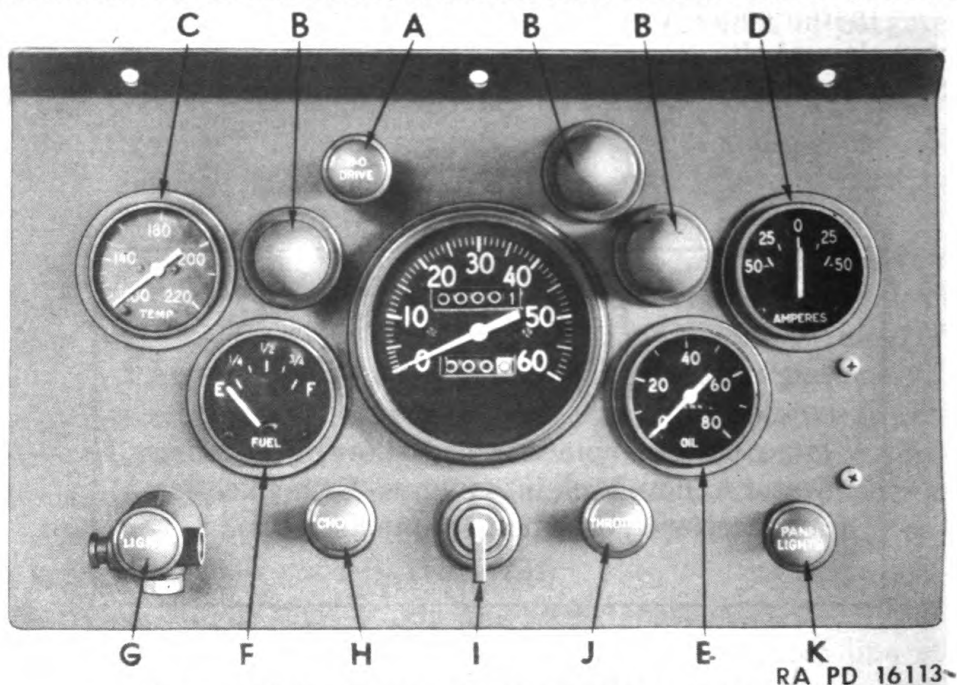

Figure 158—Front View of Instrument Panel
a. Instruments and gauges, as illustrated in Fig. 158, are installed in a cluster in instrument panel, mounted on left side of windshield lower panel forward of steering column. The instrument panel, with all instruments and gauges, can be removed or installed as complete assembly, or each instrument or gauge can be removed and installed separately.